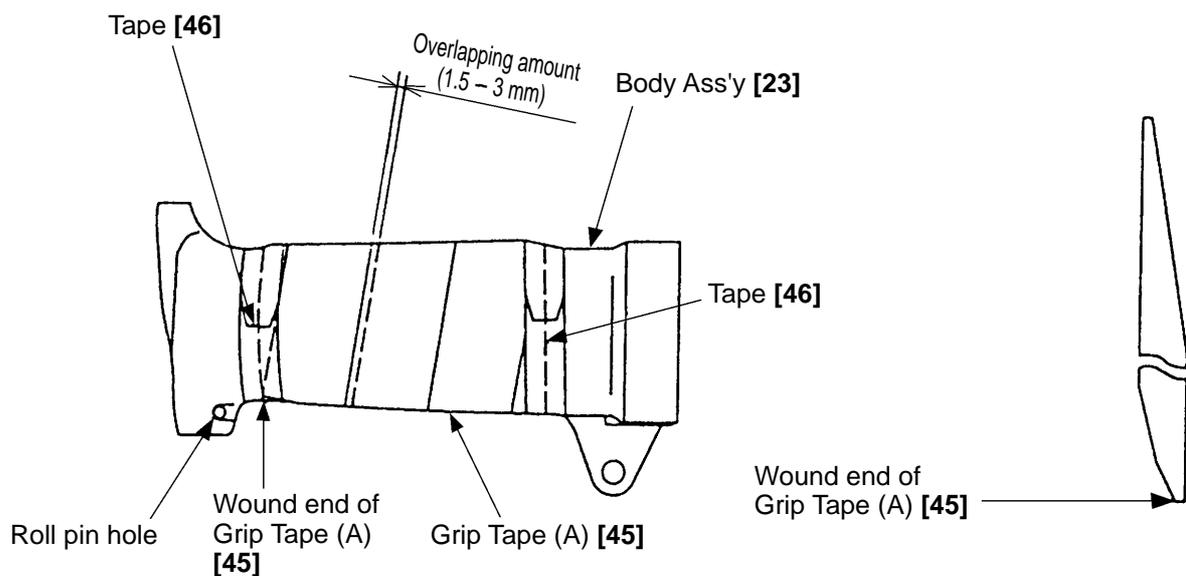

**Fig. 9**
- Apply sufficient grease to the O-Ring [I.D 1.8 mm] [65] of Plunger (A) [64], the O-Rings [59], [61], [62] on Valve Piston (B) [60] and the stem of Plunger (A) [64] as shown in Fig. 9.
- Install Valve Bushing (A) [66] so that a roll pin groove of Valve Bushing (A) [66] is in alignment with the roll pin hole of the Body Ass'y [23] as indicated in Fig. 9. Then first insert a roll pin driver [3 mm (0.118") dia.] into the roll pin hole and hammer in the Roll Pin D3 x 22 [51] after making sure that it can pass through the groove and hole.